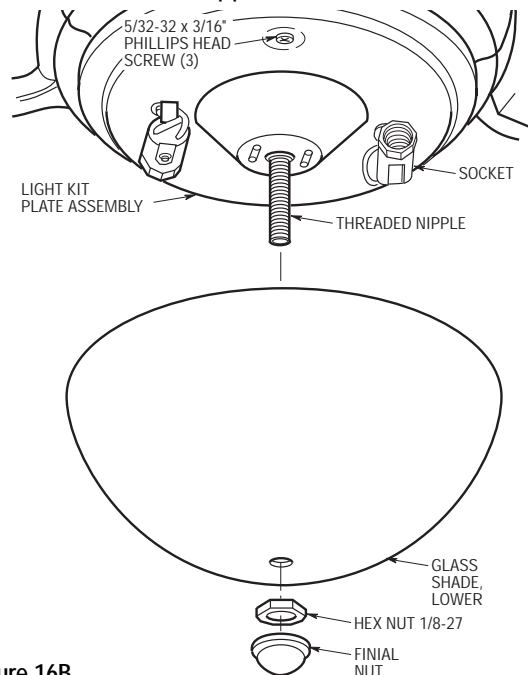

Figure 16B
- 25. Secure the light kit plate assembly to the light kit adapter assembly by threading three 5/32-32 x 3/16" phillips head screws (supplied) into the threaded holes in the adapter assembly (Figure 16B).
- 26. Install two candelabra base lamps in the sockets of the light kit adapter plate (Figure 16B):
- 27. Position the glass shade over the threaded nipple in the light kit plate assembly (Figure 16B). Seat the glass shade evenly over the plate assembly and securely install the hex nut and finial nut (supplied) on the threaded nipple.